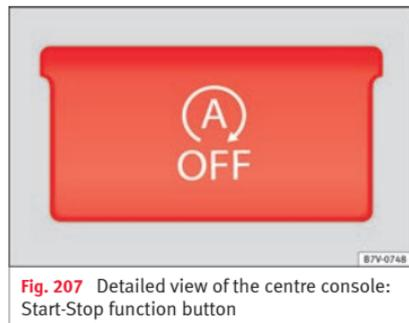

Fig. 207 Detailed view of the centre console: Start-Stop function button
- Press the  button on the centre console **»» Fig. 207**.